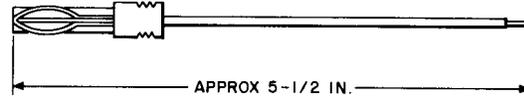

Fig. 14—730A Test Probe Tool
2.14 730A: The 730A test probe tool (Fig. 14) is a faceplate type which consists of 22 gauge stranded vinyl insulated wire equipped at one end with a special test point intended for insertion into a faceplate test point location in the No. 1 ESS. The other end of the test probe is bare wire.